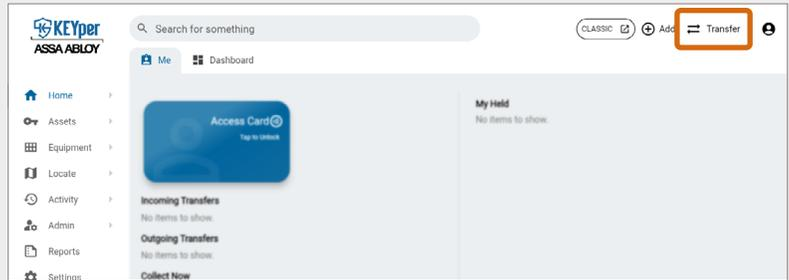

Fig. 120 – Select Transfer from the navigation menu
- 🔑 In KEYper GO Web, the **Transfer** button is in the upper right area of the screen, as shown in Fig. 120.